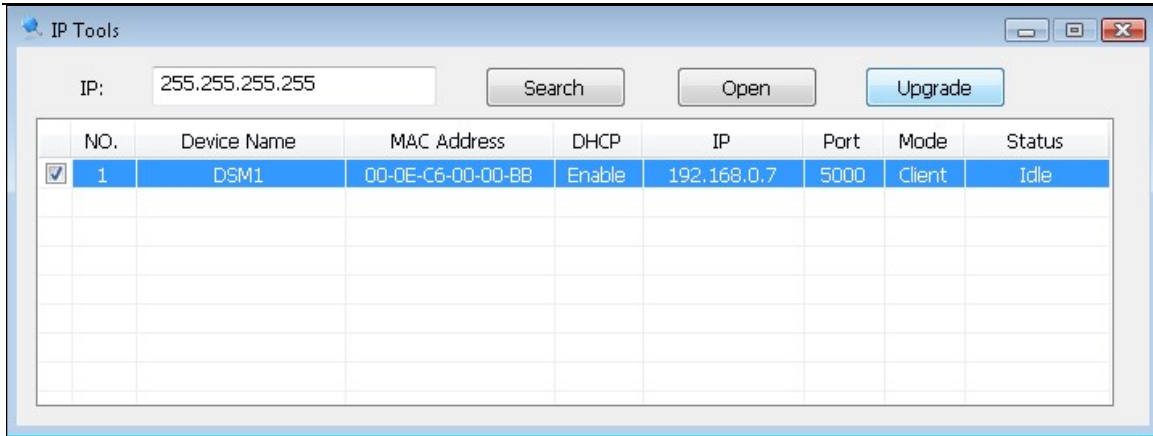

Figure 28
3. Launch the IP Tools application as referenced in Section 3.4.1, and locate the ObserverIP on your network. Reference Figure 28. Select the Upgrade button to begin the firmware upgrade. As shown in this figure, the IP address of the ObserverIP is 192.168.0.7. Make a note of your IP address (your results will vary).
2. Launch the IP Tools application as referenced in Section 3.4.2, and locate the ObserverIP on your network. Reference Figure 28.